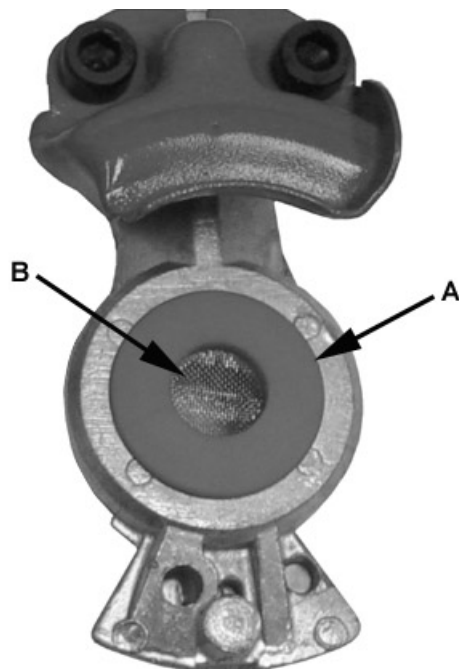

Figure 8-15 Glad Hand Seals And Screens
Inspect all glad hand seals (A) and screens (B) (if equipped) for damage and wear. Replace if damaged or worn. See figure 8-15.